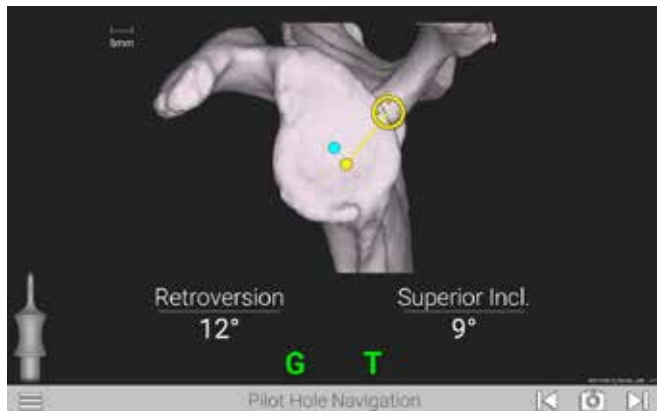

Figure 49a
- The planned position is indicated by a blue dot (Figure 49a).